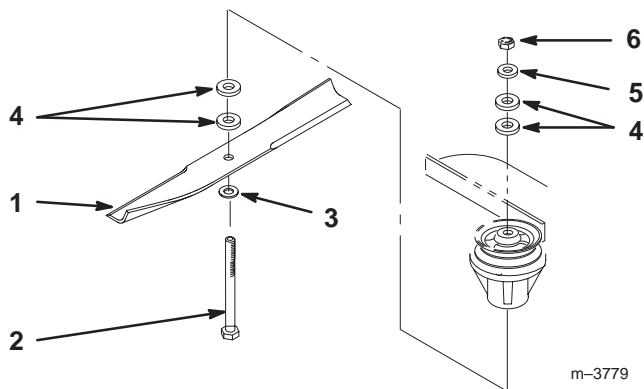

Figure 29
- Remove the nut, blade bolt, cone washer, blade, spacers, and thin washer from the spindle (Fig. 29).
- Place the blade onto the bolt and over the cone washer. Select the proper number of spacer(s) for the height-of-cut, and slide the bolt into the spindle (Fig. 29).
- Install the remaining spacer(s) and secure them with a thin washer and a nut (Fig. 29).